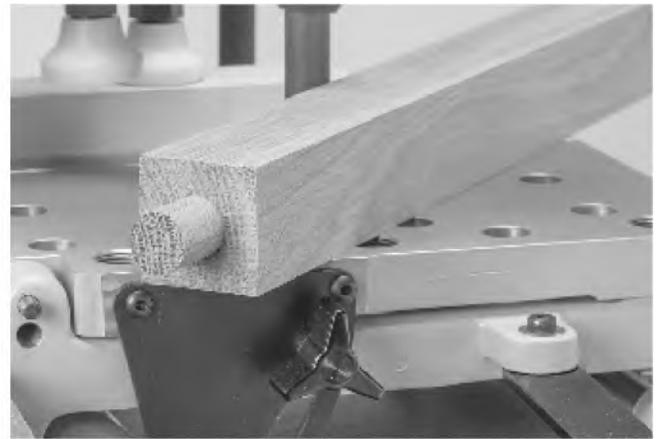

FIGURE 1. Round tenon cut on square stock using template.
1. Prepare your stock straight, flat and square. Prepare some test material to the same dimensions. Prepare a spacer block that precisely matches the width of the cut made by the router bit you will use. **FIGURE 1.**